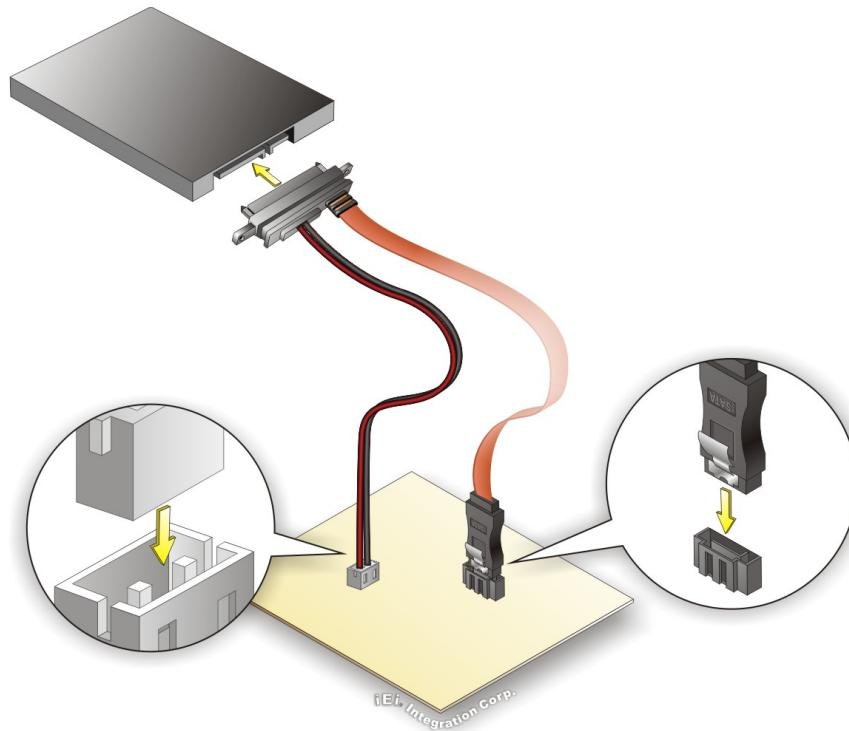

Figure 4-19: SATA Drive Cable Connection
Step 2: **Insert the cable connectors.** Insert the cable connectors into the on-board SATA drive connector and the SATA power connector. See Figure 4-19.
Step 3: **Connect the cable to the SATA disk.** Connect the connector on the other end of the cable to the connector at the back of the SATA drive. See Figure 4-19.